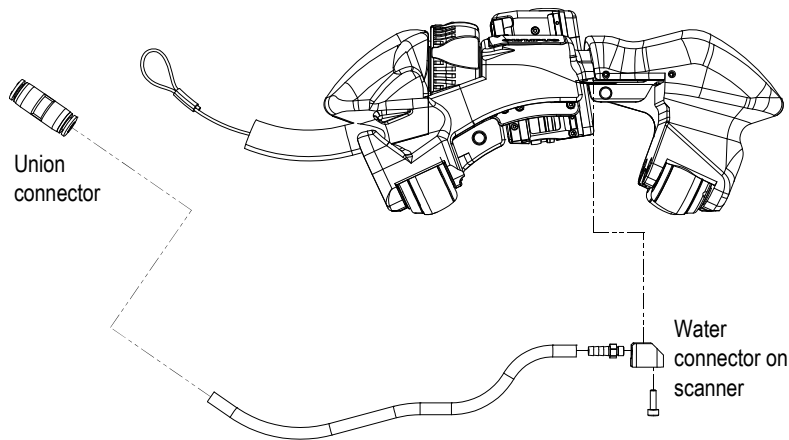

Figure 5-6 Changing the tube (shown disassembled)
1. Remove the screw that fixes the water connector to the scanner (see Figure 5-6 on page 51).